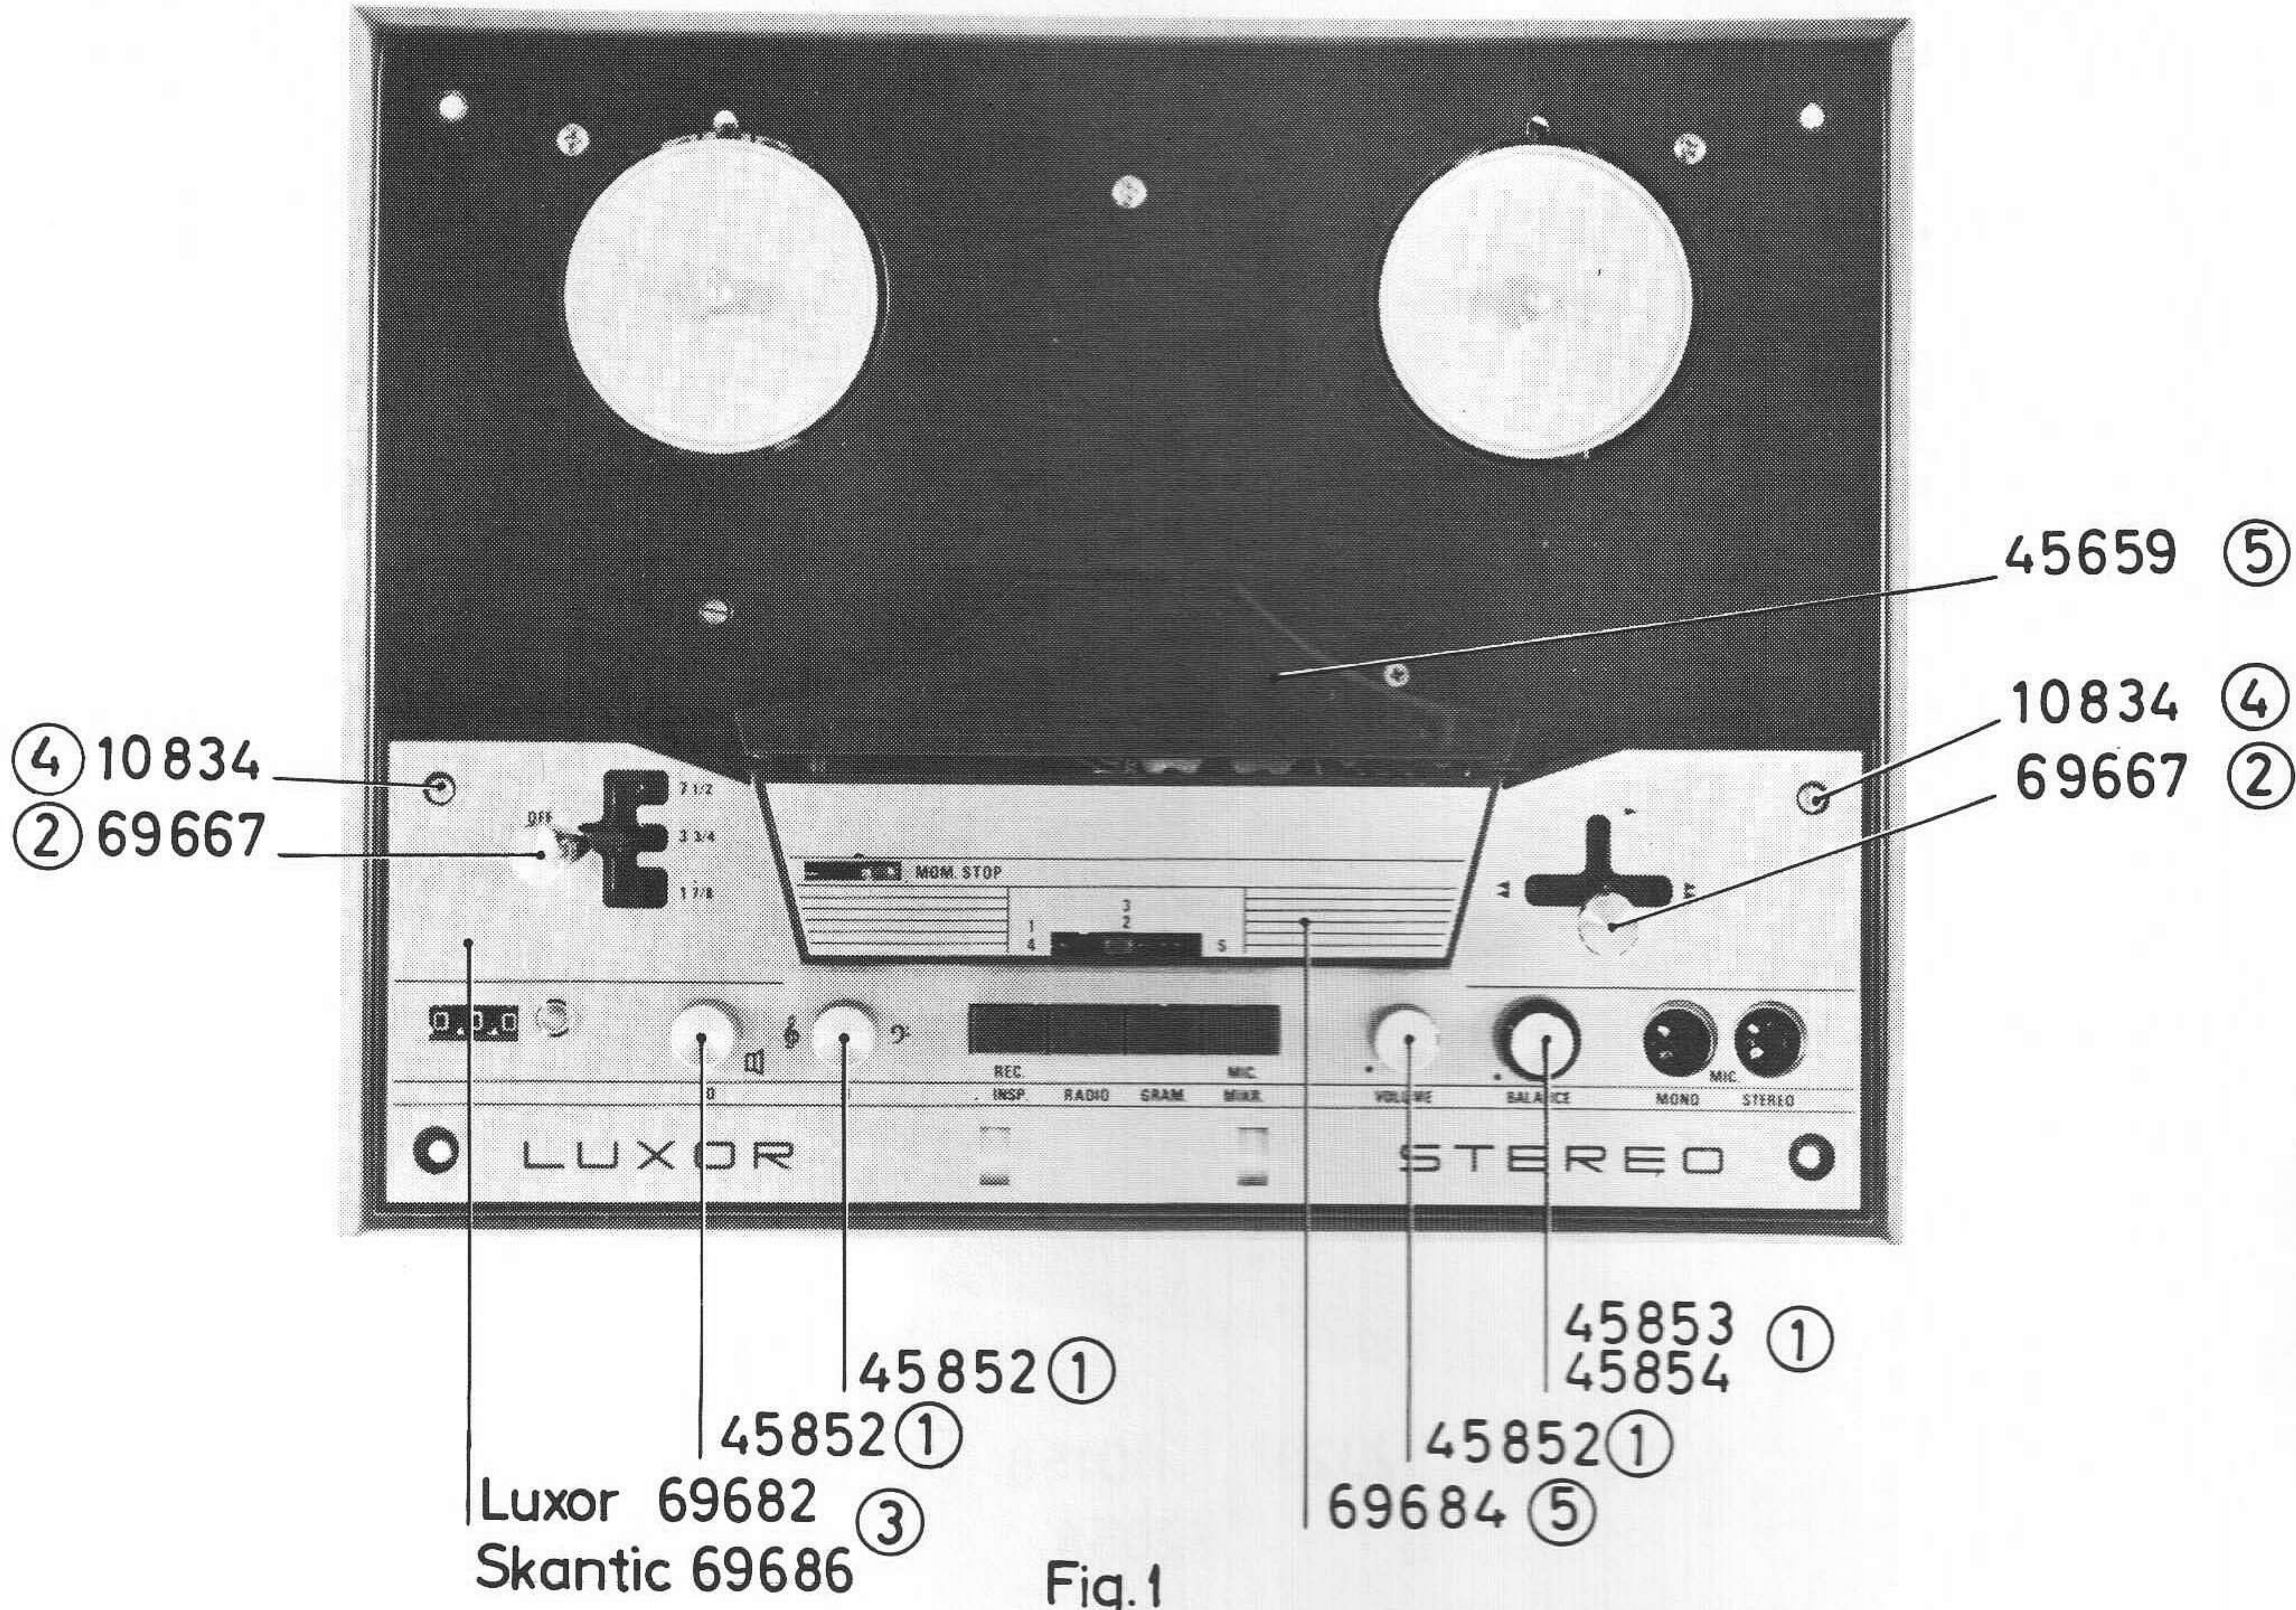

Fig. 1
1. BORTTAG DE FEM MANÖVERRATTARNA (1). SE FIG. 1.
2. BORTTAG DE TVÅ HANDTAGEN (2) FÖR MANÖVERSPAKARNA. SE FIG. 1.
3. BORTTAG DEN FRÄMRE MASKEN (3) GENOM ATT LOSSA TVÅ SKRUVAR (4). SE FIG. 1.
4. BORTTAG DE TVÅ ANDRA MASKERNA (5) GENOM ATT LYFTA DESSA RAKT UPP. SE FIG. 1.